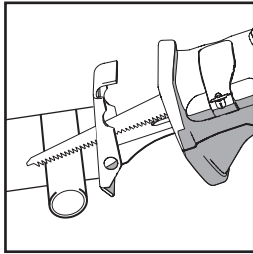

Fig. 8
- Cut through the workpiece slowly allowing the flexible blade to curve as required. (**Fig. 8**).